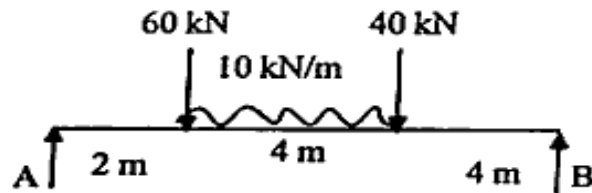

Figure 1 (आकृति 1)
- Draw the S.F and B.M diagrams of the beam shown in Figure 1.